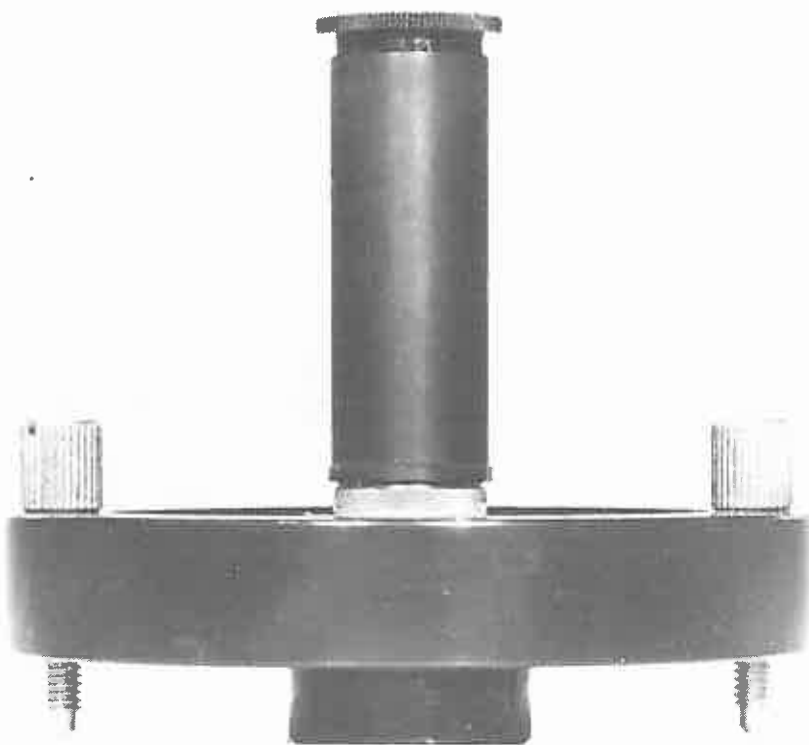

Figure 1-12. Model 300-M Mirror Microscope Accessory.
1.2.11 Model 300-M Mirror Microscope Accessory (Figure 1-12)